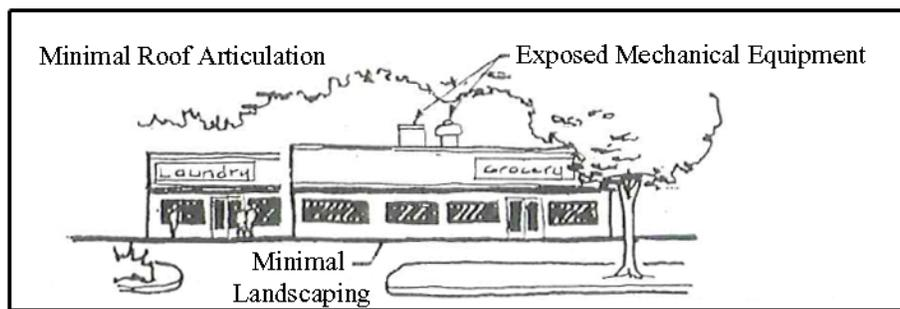

Figure 11
- c. Flat Roof - Equipment on roof shall not be visible from an elevation that is horizontal to the location of the roof equipment. Figure 11 depicts unacceptable roof articulation.